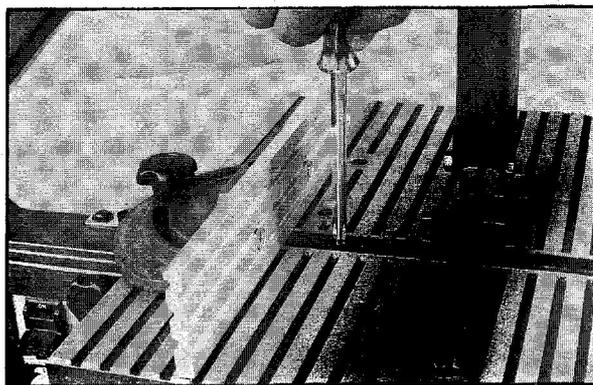
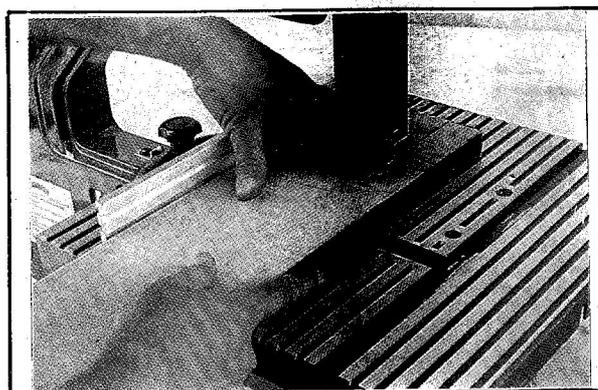

FIGURE 21
FIGURE 22
2. This operation may be performed either by setting the miter gauge for ripping as show in Figure 21 or by sawing to a line. To obtain straight rip cuts use the rip fence and saw slowly using light pressure. If you don't push too hard, the tension in the blade will cause it to stay in position and give you a straight cut. See Figure 22.